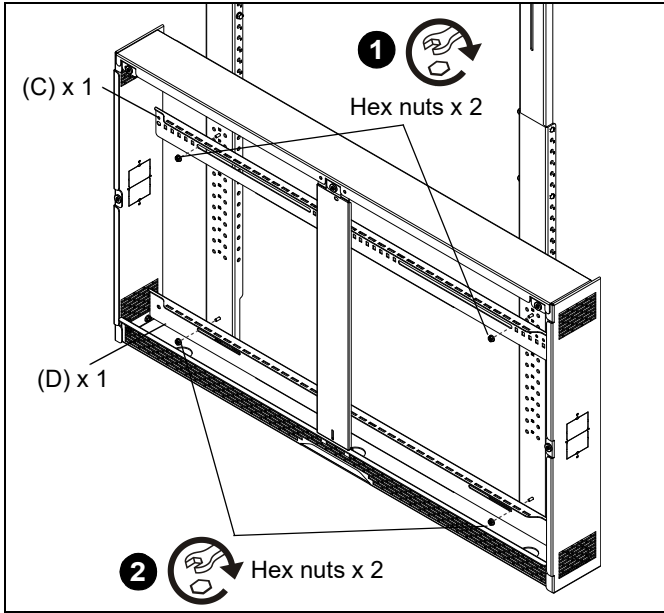

Figure 17
1. Install the upper storage rail (C) to the inside of the floor cabinet (A) using the two hex nuts attached to the bottom uprights (F/G). (See Figure 17)
2. Install the lower storage rail (D) to the inside of the floor cabinet (A) using the two hex nuts attached to the bottom uprights (F/G). (See Figure 17)